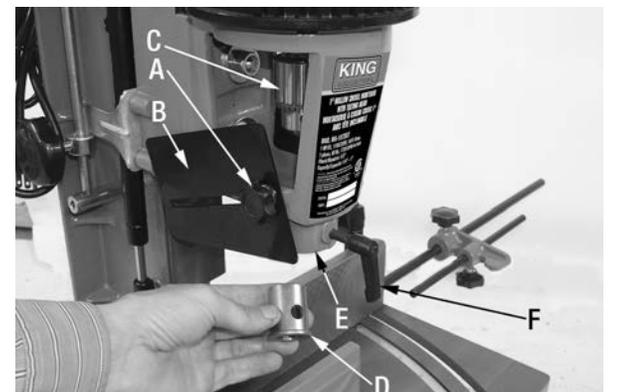

FIGURE 6
Loosen the two lock knobs (A) Fig.6 on both sides of the head and lower the covers (B) to expose the chuck (C).
Insert the appropriate chisel bushing (D) Fig.6 up through the hole in head (E), being sure that round hole in the side of chisel bushing faces the front of machine. The lock knob (F) must pass through this hole to secure chisel. Tighten the chisel bushing lock knob (F), located on front of the head, until the chisel bushing is held up in place.